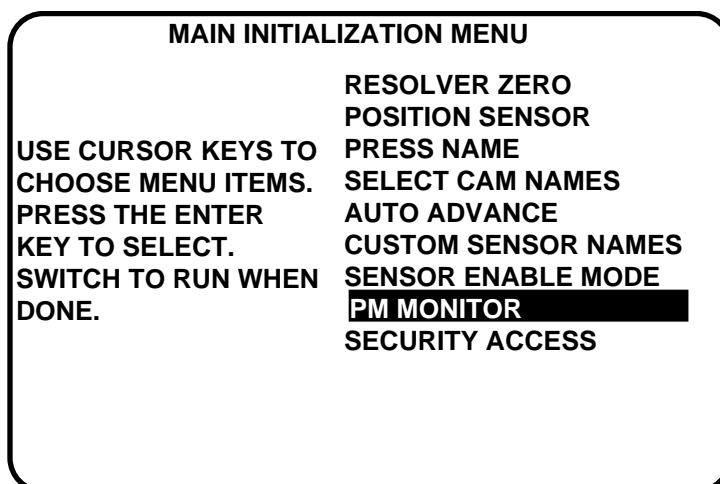

Figure A-1. "PM Monitor" highlighted at SmartPAC Initialization menu (the list of options may vary depending upon the features you have installed)
2. Select "PM Monitor" from the main Initialization menu (Figure A-1). A screen will appear asking for your password.
1. Select "PM Monitor" from the main Initialization menu (Figure A-1). A screen will appear asking for your password.